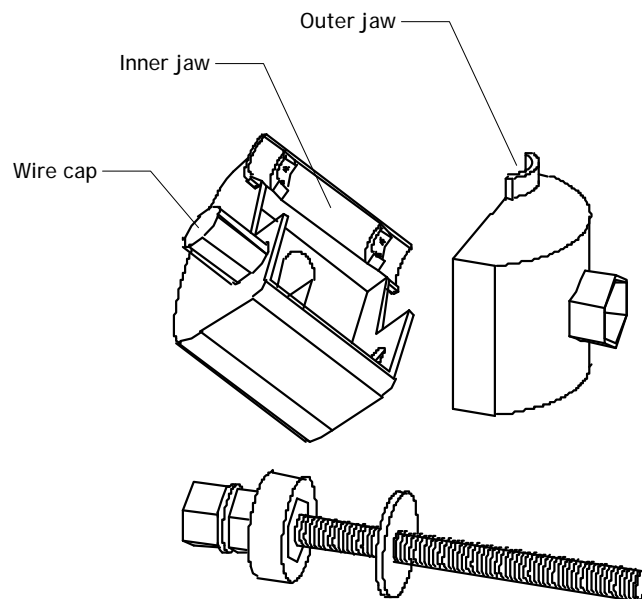

Figure 3.
2. Unscrew the mounting bolt from the new large voltage connector. The connector separates into three parts: bolt, inner jaw, and outer jaw. See Figure 3.